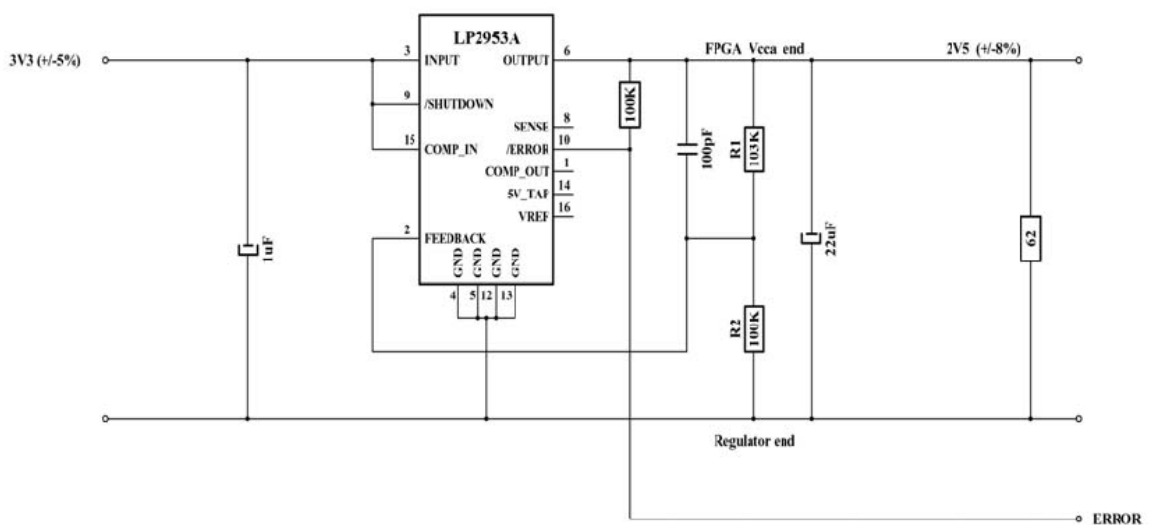

Figure 1 Schematic diagram of irradiation biasing scheme.
The three devices selected for irradiation testing were serialised (A, B and C). Devices A and B were ceramic DIP packages and device C was a plastic DIP package. An irradiation test board capable of biasing five (5) devices at the same time was employed. An additional interface board provided power distribution and multiplexing for in-situ measurements. After each exposure-step the devices were removed from the irradiation board and parametric measurements performed. In addition regular in-situ measurements were performed. The schematic diagram of the irradiation test board is illustrated in figure 1. Irradiation board, interface board, cables, biasing scheme and test samples were provided by the COROT project. The device operating conditions, temperature conditions and applied dose rates are listed in table 1.